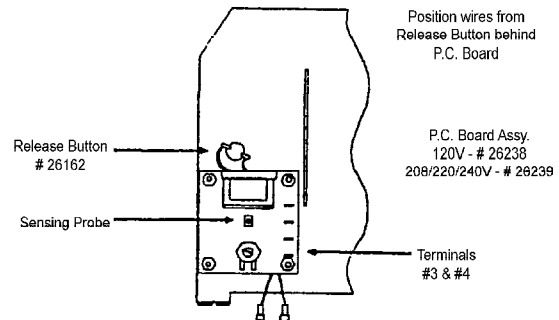

Figure 3
5. When installing the new p.c. board make sure the sensing probe is inserted through the opening in the p.c. board reflector before securing front panel to the chassis. (Figure 3)